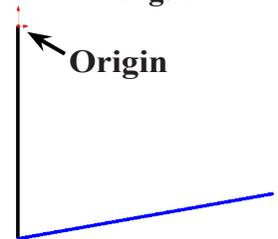

Fig. 2
Step 3. Click **Line**  (L) on the Sketch toolbar.
Step 4. Draw **two lines**, **Fig. 2**. Draw one line down vertically from Origin . Draw second line **at slight angle up from bottom endpoint of 1st line**.